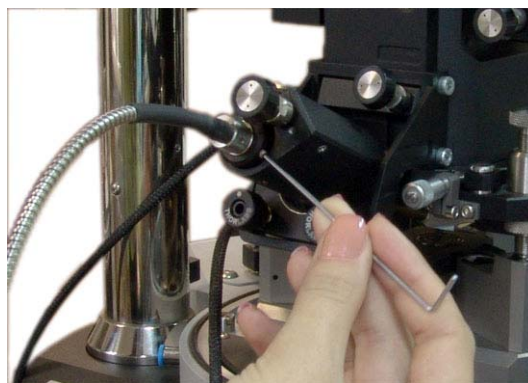

Fig. 10-23. **Output** socket installed
3. Insert the **Output** socket of the second OTS into the hole of the side illumination module against the stop (see Fig. 10-23).